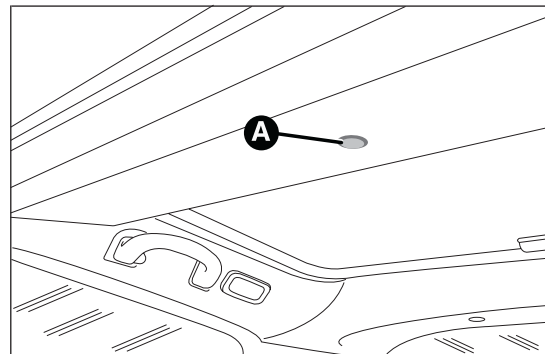

fig. 54
- remove the protective cap located on the internal lining, between the two sun blinds fig. 54;
- introduce the key provided into housing A fig. 54 and turn it clockwise to open the roof or anticlockwise to close the roof.